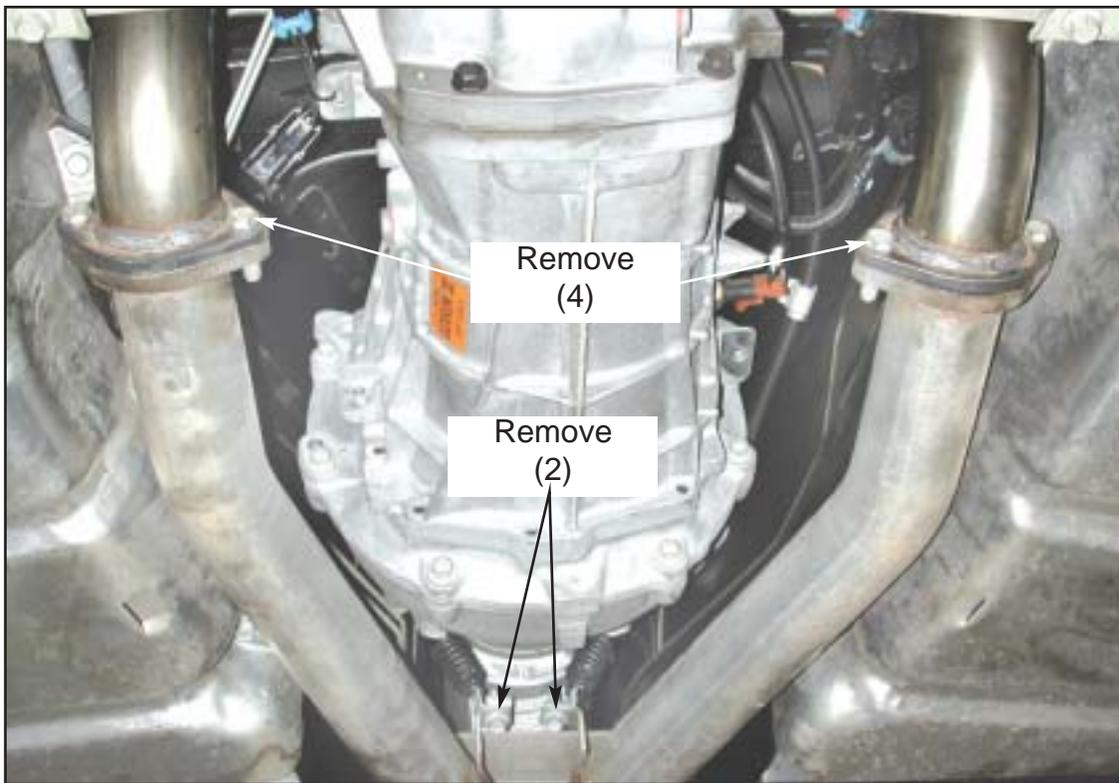

FIGURE 1
- All eight (8) spark plug wires and spark plugs
- The two (2) plastic clips that hold the positive and negative battery cables together
- The two (2) motor mount stud nuts under the front crossmember
- Unbolt the two (2) flanges near rear transaxle that connect the O.E. midpipe assembly to the two (2) overaxle pipe/muffler assemblies. Unbolt the two (2) spring hangers near rear of midpipe assembly. (See Figure 1)
- The two (2) bolts in front of the catalytic converters that secure front end of midpipe assembly to chassis
- The six (6) nuts (3 per side) that secure the front end flanges of the midpipe assembly to the outlets of each side exhaust manifold, and remove the midpipe assembly from the vehicle.